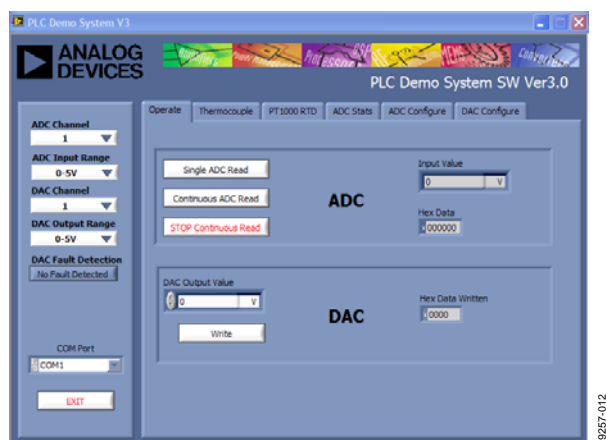

Figure 12. Main Window
1. To run the software, click **Start > All Programs > Analog Devices > PLC Demo System > PLC EVALUATION SW V3.x**. The window in Figure 12 should appear.